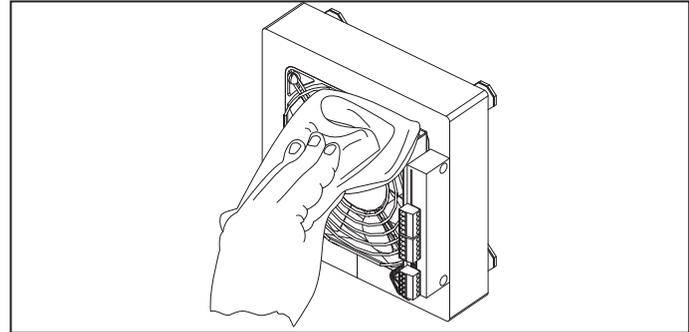

Fig. 16. Impeller blade cleaning
- Clean the impeller blades, Fig. 16. Remove dust with a soft brush, cloth or a vacuum cleaner. Cleaning with water, abrasive detergents, solvents, sharp objects is not allowed. Clean the impeller blades at least once a year.